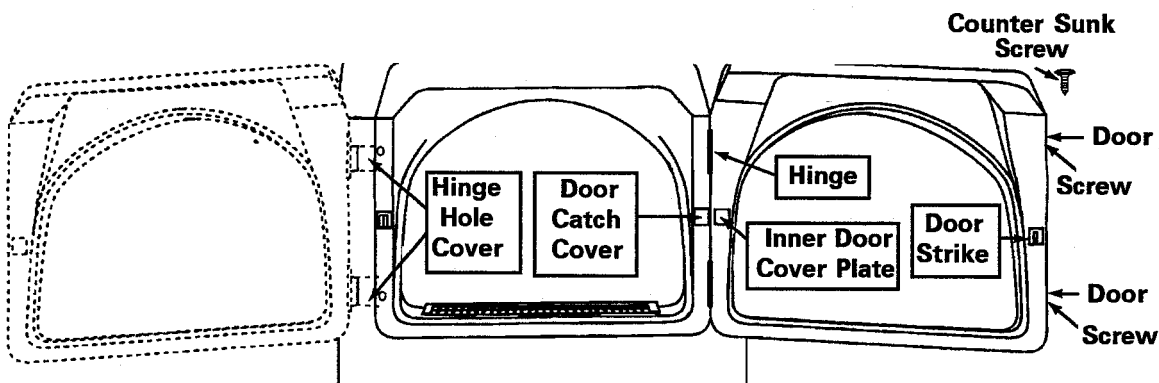

Figure 2-23
1. Remove the hinge hole covers and screws. Remove the cover from the door catch, *see Figure 2-23*.